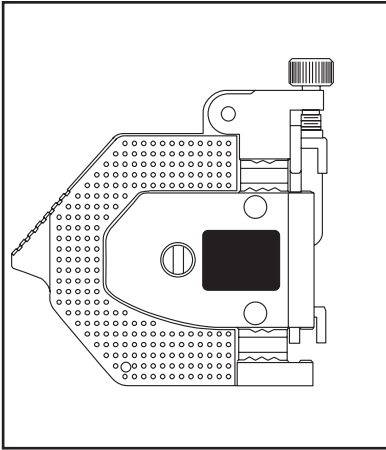

Figure 3-1. Pump in Closed Position
Refer to Figures 3-1 through 3-4 and Figure A.
1. Refer to Figure 3-1. Make sure the pump is in the closed position.
1. Refer to Figures 3-1 through 3-3. Perform Steps 1, 2 and 3 in Section 3.3.1 to put the first pump on the face of the motor.